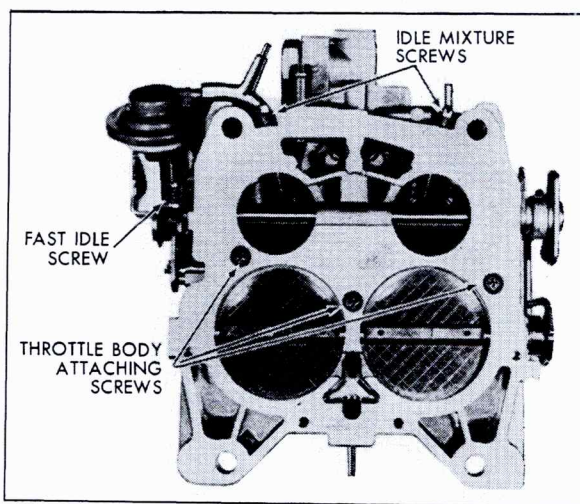

Fig. 6-73 Throttle Body
19. Turn bowl over and remove throttle body by removing three throttle body to bowl attaching screws. See Fig. 6-73.